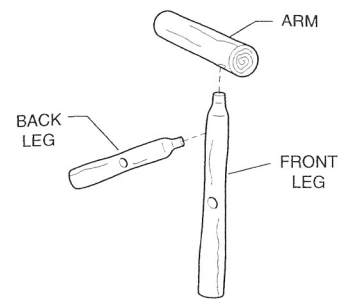

figure 2
- STEP 2 Make a right leg set and a left leg set by inserting doweled end of back leg into angled hole of front leg. The drilled holes on each leg should face the same direction as shown in figure 2. Put arms onto legs by inserting doweled ends of front legs into the holes in the arms. Drive arms onto leg assemblies as far as possible.